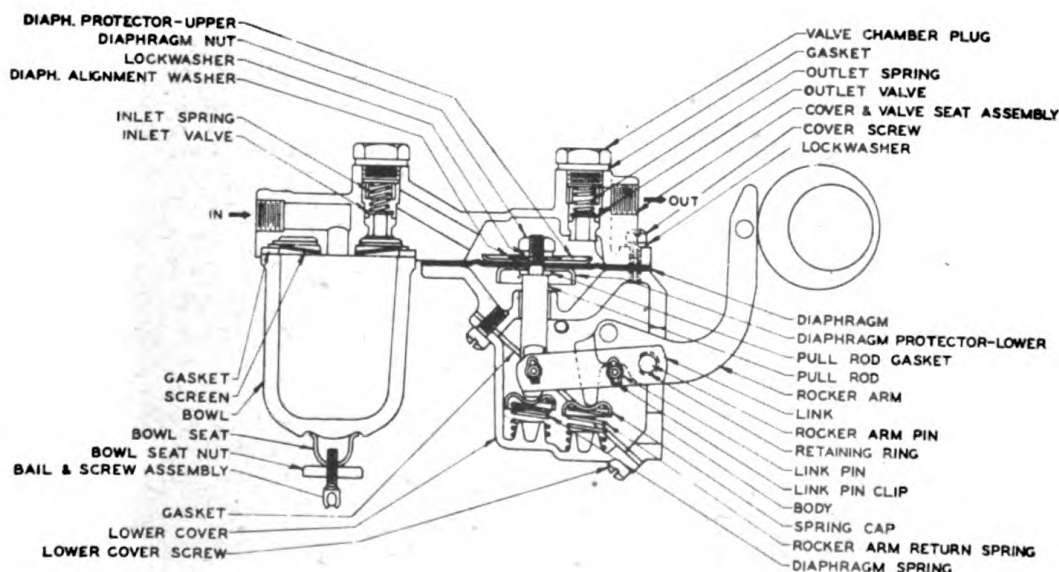

Figure 266. Cross Section Diagram of Fuel Pump.
b. Repairs which necessitate removal of pump from engine and disassembly. Figure 266 shows cross section diagram of fuel pump.